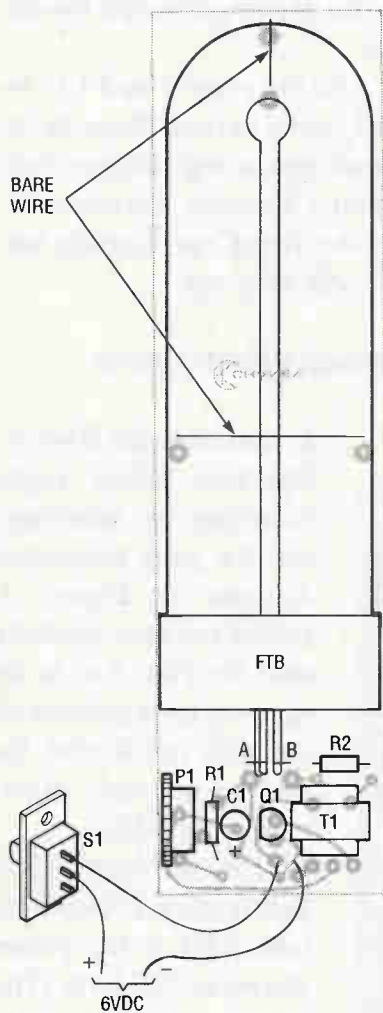

Figure 2. Parts Placement Diagram. Be sure to mount Q1 with its flat side facing C1, as shown.
1. Assemble the Battery-Operated Black Light following the schematic and the parts placement diagram in Figure 2. Before you start, carefully read the Parts List to be sure you have on hand all the parts you’ll need. Be sure to use only 60/40 rosin-core solder.
3. Observe the polarity on capacitor C1 and the flat side on Q1, and install them precisely as shown in Figure 2, with the flat side of Q1 facing C1.